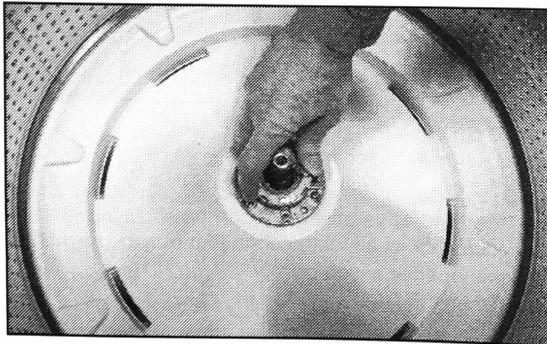

FIGURE 7
9. Install spanner nut. Hand tighten spanner nut without tools, until fully seated. See *Figure 7*.